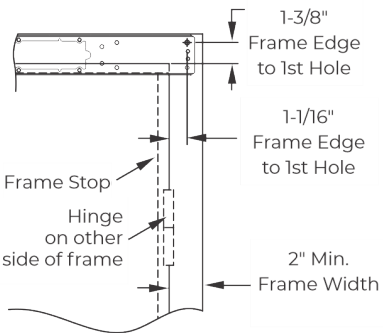

Figure 2 Right Hand Shown
2. Measure, mark, and drill the first mounting hole according to the template (available for download from www.nortonrixson.com). (Figure 2)